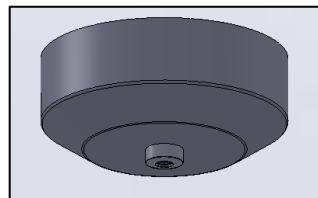

FIG. 7 - CANOPY SUBASSEMBLY
- a. CANOPY SUBASSEMBLY (as shown in FIG. 7)